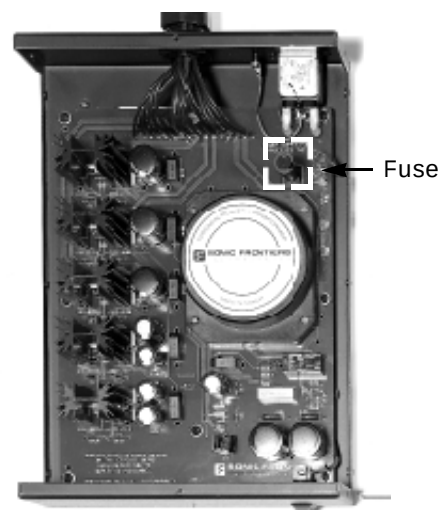

Figure 9 - The Fuse in the Processor 3 is located in the right rear corner of the power supply chassis.
1. Check that the Power Supply Umbilical Cord (T) is connected correctly to the Power Supply Input Socket (E). Next, ensure that the AC Detachable Power Cord is plugged into the Power Supply's Detachable Power Cord Socket (S) and is connected to a live source of AC power. For instance, if using a power bar, check that the bar is turned on.
2. Be sure that the Power Switch (R) on the front of the Processor 3 Power Supply chassis is in the "ON" position.
3. Check that the proper input has been selected with the Selector Buttons (A) on the Processor 3 chassis.
5. Check that the AC Line Fuse inside the Power Supply chassis is good. Be sure to first unplug the AC Detachable Power Cord from the Power Supply before removing chassis covers to check the fuse. For fuse location see figure 9. To remove the fuse, simply unscrew the fuse holder and remove the fuse. If the fuse has blown, the thin metal conductor will have melted and the glass may appear "smoked". If the fuse has blown, replace with a fuse of the same type and rating (See specifications for fuse ratings).